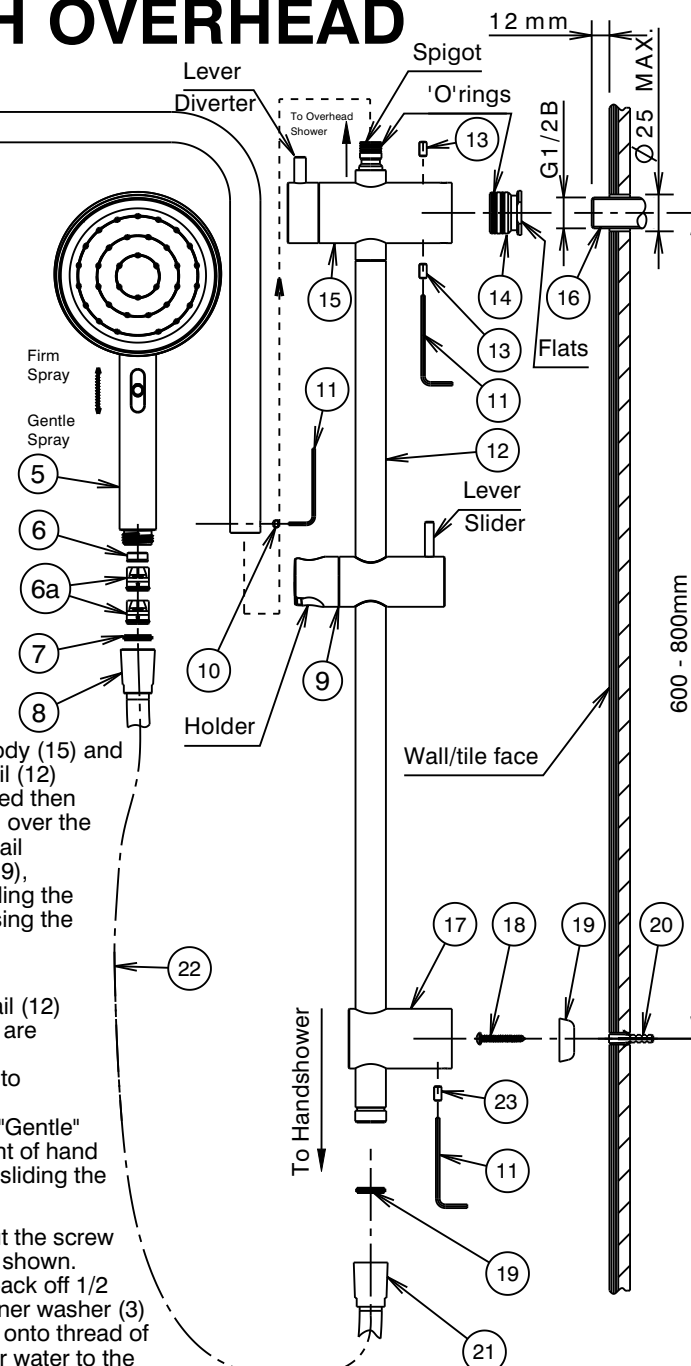

Fig. 1
- 2) Screw adaptor (14) onto threaded nipple (16) until adaptor (14) is held securely against wall/tile face. DO NOT OVERTIGHTEN. Apply suitable lubricant to 'O'Rings on adaptor (14).
- 3) Mark the position for the shower rail mounting post (17) at a suitable distance from the threaded nipple (16). (Fig 1.)
- ii) Insert tapered end of wall plug (20) into drilled hole and tap until flush with surface.